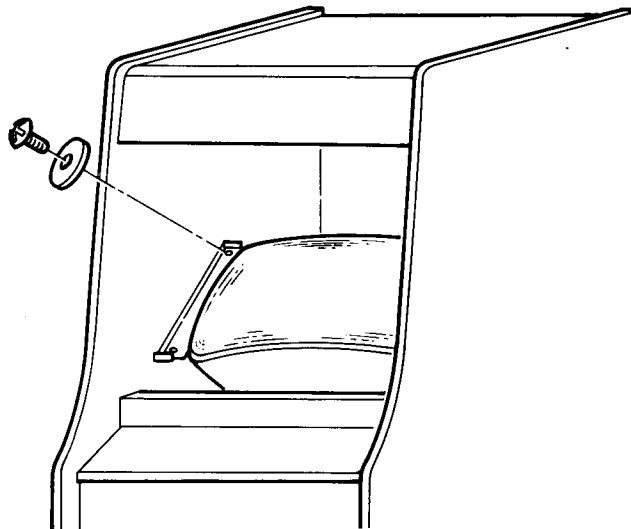

Fig. 17 Video Monitor removal
- (d) Standing at the front opening of the game, remove the four mounting bolts and flat washers. See Fig. 17.